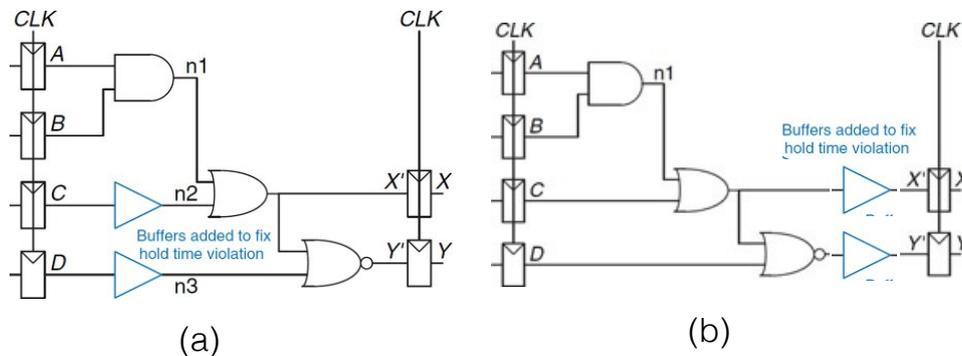

Figure 9.2: Two proposed solutions to solve Charlie's hold-violation problem. (a) Alyssa's proposal. (b) Ben's proposal.
- Your other co-workers Alyssa and Ben have each proposed a solution to Charlie's hold-violation problem. Their proposals are shown in Figure 9.2. The buffers they have added consist of two inverters. A buffer has the same delays as the other logic gates used in Charlie's circuit. It is now your task to determine if either of them, or both, will work to avoid the hold violation. If both solutions will work, which one is preferable? Motivate! (5 p)